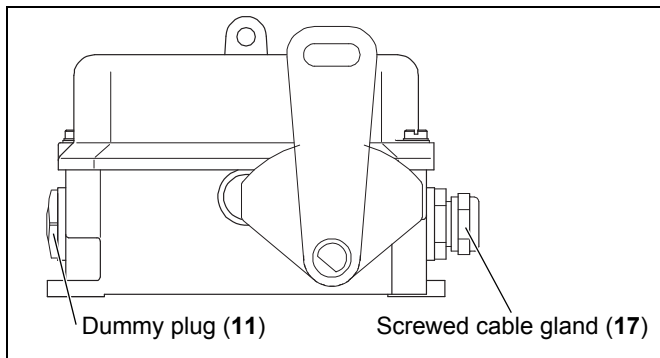

Fig. 5-1: Scope of delivery
The pull-rope emergency stop switches are delivered ready to operate. The screws for mechanical fastening are not included in the scope of delivery. One screwed cable gland (17) and one dummy plug (18) are included in the scope of delivery (see fig. 5-1).